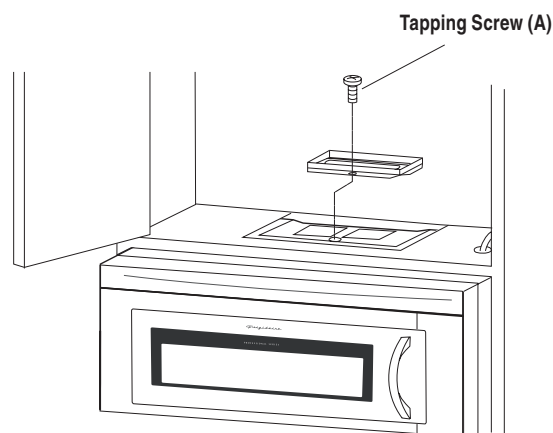

Figure 20
6. Attach the Exhaust Damper Assembly to the fan cover bracket on the top of the outercase cabinet after mounting the oven. To attach the Exhaust Damper Assembly, refer to MOUNTING OVEN TO THE WALL, See Figure 20 on page 7 and TOP CABINET TEMPLATE.
Attach the Exhaust Damper Assembly to the fan Cover Bracket on the top of the outercase cabinet by sliding it into the slits in the same direction as the allow using screw (A) which removed at (C) VERTICAL EXHAUST STEP 1 on page 5. See Figure 20 on page 7.